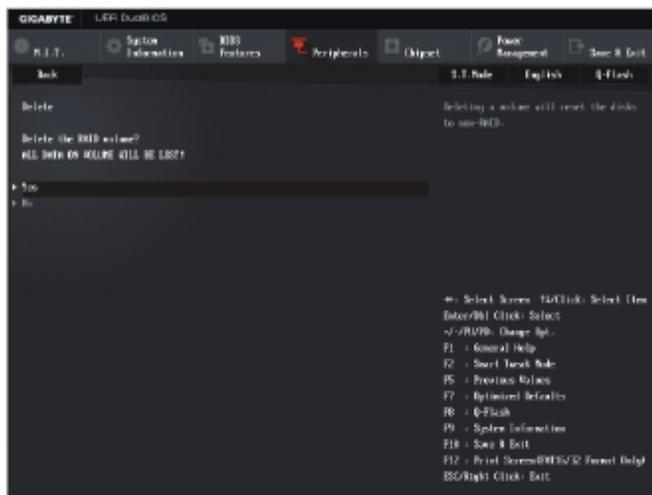

Figure 8
To delete a RAID array, press <Enter> on the volume to be deleted on the Intel(R) Rapid Storage Technology screen. After entering the RAID VOLUME INFO screen, press <Enter> on Delete to enter the Delete screen. Press <Enter> on Yes (Figure 8).